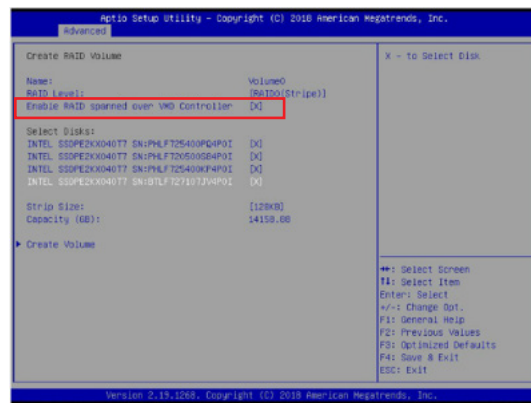

Figure 6-11. Created Volume *with* enabling RAID spanned over VMD controller
- Repeat steps 3 and 4 for each PStack# on each CPU to be enabled or disabled. In this example, we enabled CPU1 Slot1 (Figure 6-11) and CPU2 Slot5 (Figure 6-12) (four U.2 form factor SSDs), as well as CPU1 M.2 C-1 and CPU1 M2. C-2 (two M.2 form factor SSDs)